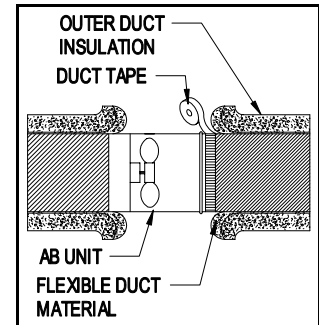

Figure 4
1. Cut and separate the flexible duct. Fold back the outer insulation on the duct to expose the flexible duct material. (See Figure 4)
2. Insert the Air Booster unit, with the crimped end pointing toward the problem area, into the flexible duct and secure with duct tape. (See Figure 4)